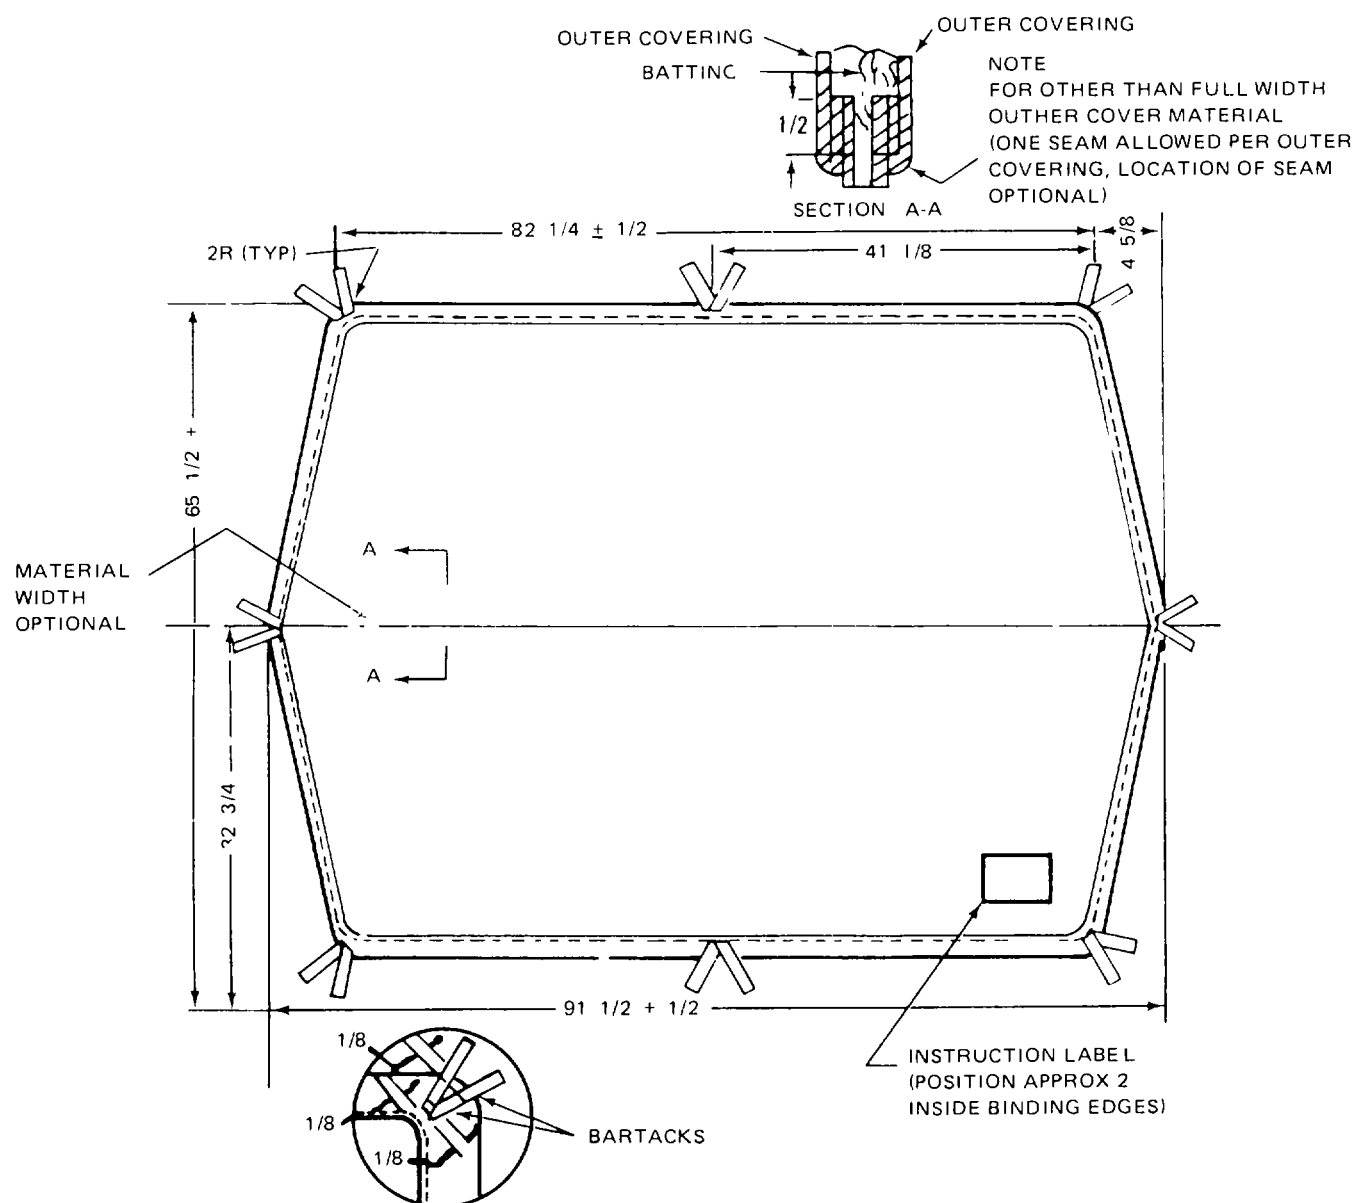

Figure 12-4 Wet Weather Poncho Liner.
- f. Liner, Wet Weather Poncho, nylon quilted, camouflage color, MIL-L-43335 (NSN 8405-00-889- 3683), Figure 12-4. The poncho liner is a polyester batting article covered with 3 plys of ripstop nylon and is intended for use as a blanket or sleeping bag component. The liner has eight tie tapes for attaching it to the poncho.